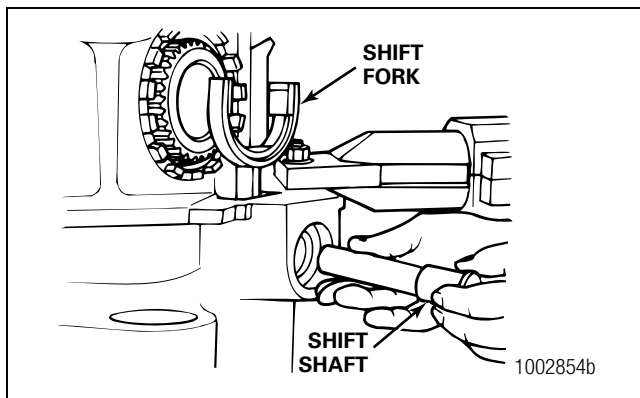

Figure 6.19
4. Install the shift shaft through the bore in the carrier, fork and spring until it is against the shift fork. Figure 6.19.